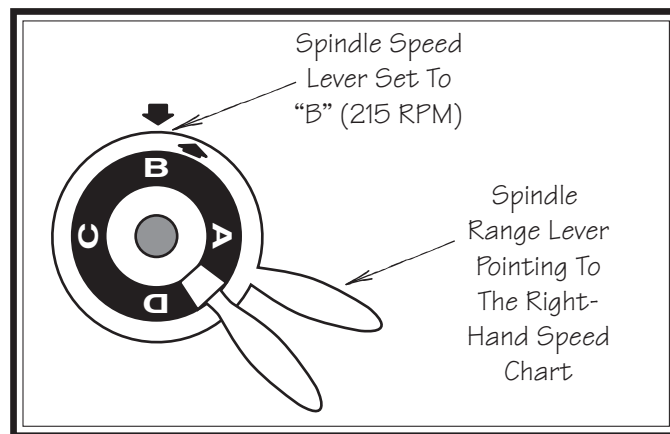

Figure 68. Setting the spindle speed to 215 RPM.
3. Move the spindle range lever to the right so that the arrow on top of its hub points toward the right-hand speed chart (see the illustrated in **Figure 68**).